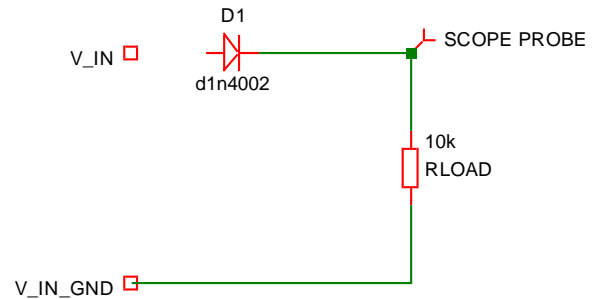

Fig. 1: Half-wave rectifier circuit.
- Step 1a: build the circuit in Figure 1